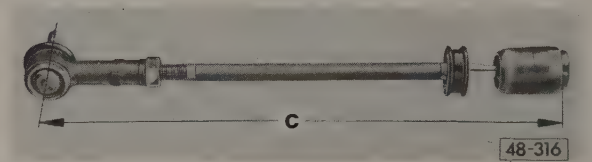

Fig. 7-8. Setting length of adjustable left-side tie rods for manual steering. Dimension **c** is 379 mm (14.921 in.).
6. Adjust the length of the adjustable left-side tie rod by loosening the outer tie rod end locknut and screwing the tie rod end in or out. Adjust the length to 379 mm (14.921 in.), as shown in Fig. 7-8.